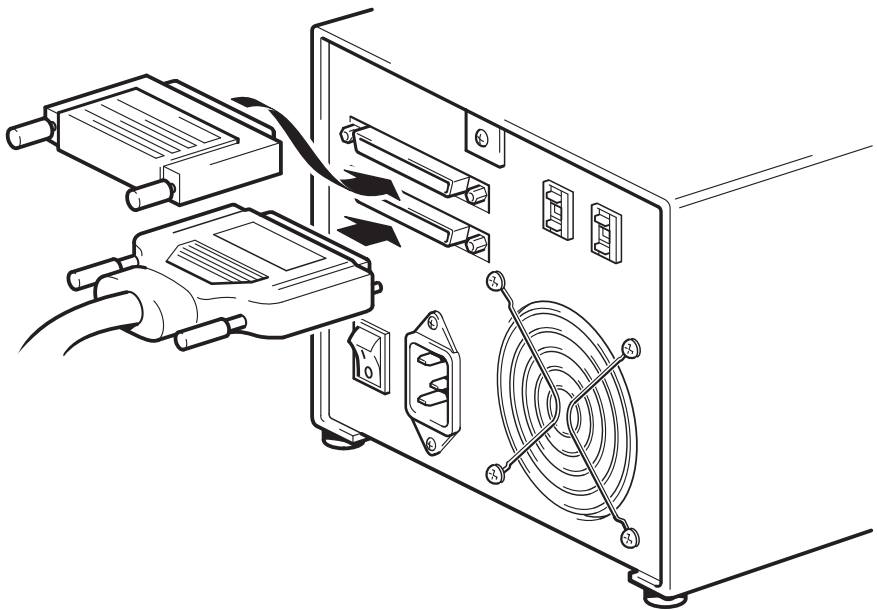

Figure 5b: attaching SCSI cable, HP Surestore DAT 40x6
- 3 Attach the other end of the SCSI cable to one of the SCSI connectors on the rear panel of the autoloader. (See figure 5b.) Tighten the screws to secure the connector.